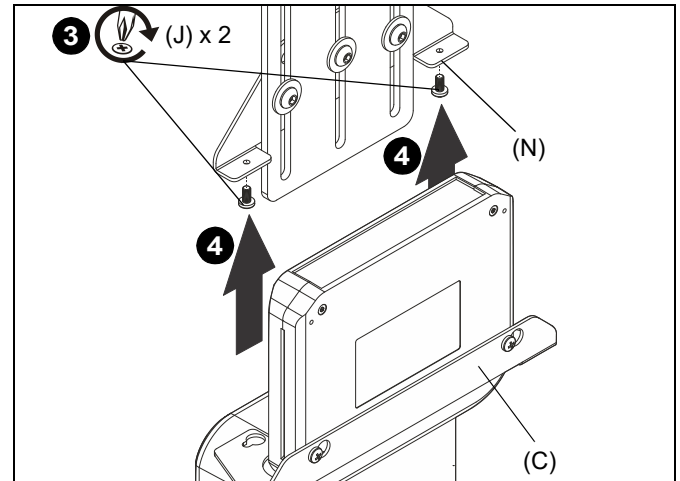

Figure 8
3. Loosely install two M4 x 8mm Phillips pan machine screws (J) into lower holes on attachment bracket (N). (See Figure 8)
4. Install camera to attachment bracket by placing keyholes on camera bracket (C) over screws installed in Step 3. (See Figure 8)
5. Tighten screws (J) to secure camera in position. (See Figure 8)